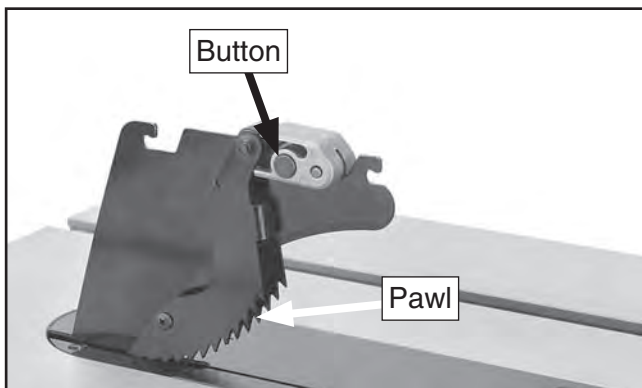

Figure 53. Button for removing pawls.
2. Press the button (see **Figure 53**) on the block that holds the pawls, then remove the pawls from the spreader.
3. Press the button on the pawl block shown in **Figure 53**, then pivot the pawls down until they lock into place.